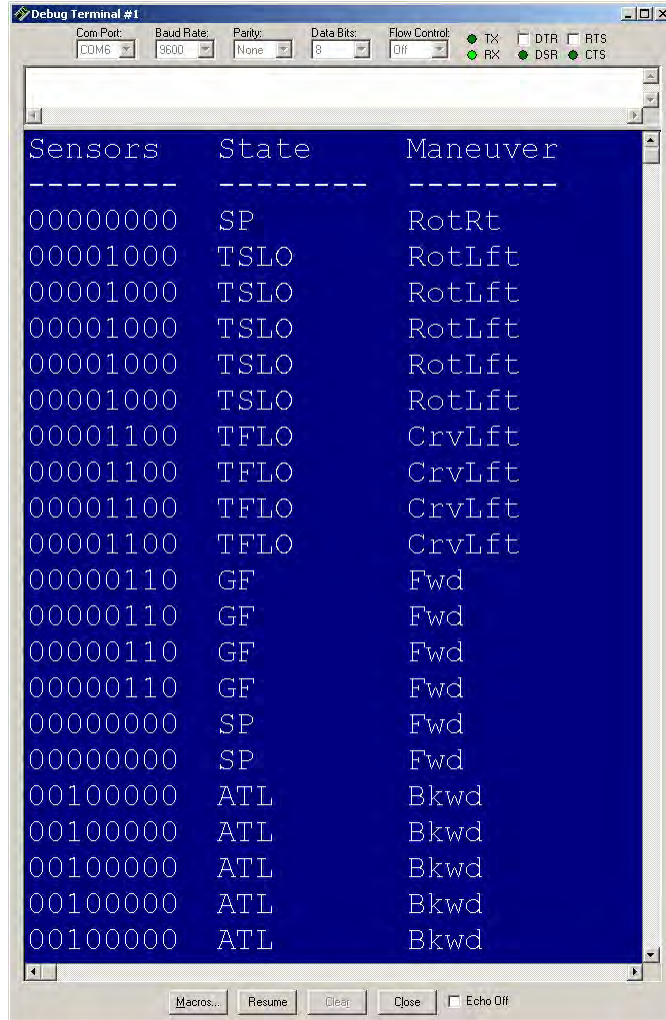

Figure 5-2
Figure 5-2 shows an example of what the Debug Terminal displays.
- √ To emulate the output shown in Figure 5-2, start with an object on the SumoBot's left side.